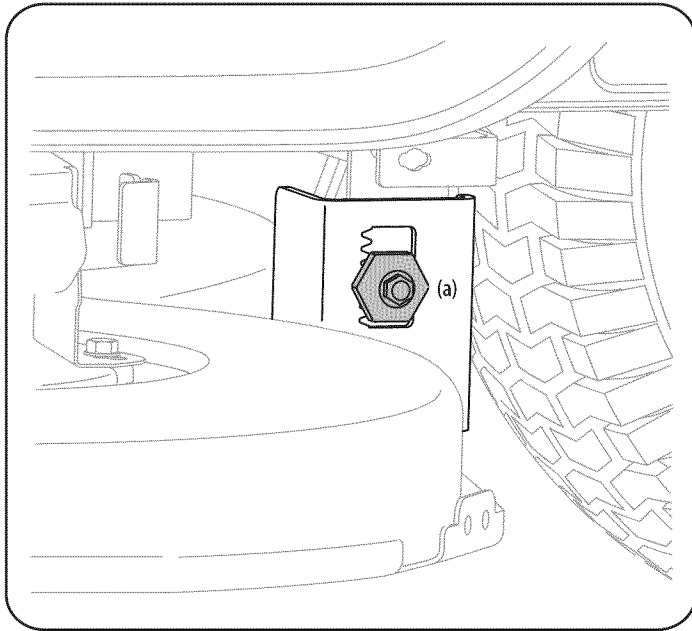

Figure 22
- Loosen, but do NOT remove, the hex cap screw (a) on the left deck hanger bracket. See Figure 22.